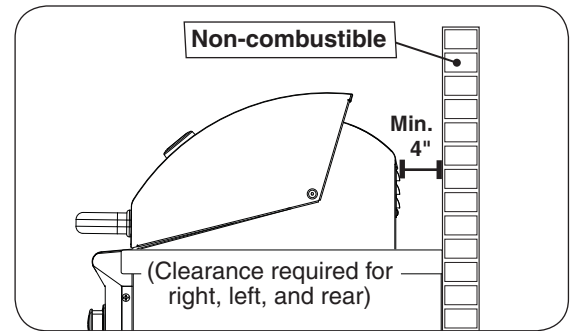

Fig. 11-1 Clearance 'A' Diagram
A. Clearance between grill and strictly non-combustible wall (i.e. brick wall, see Fig. 11-1)